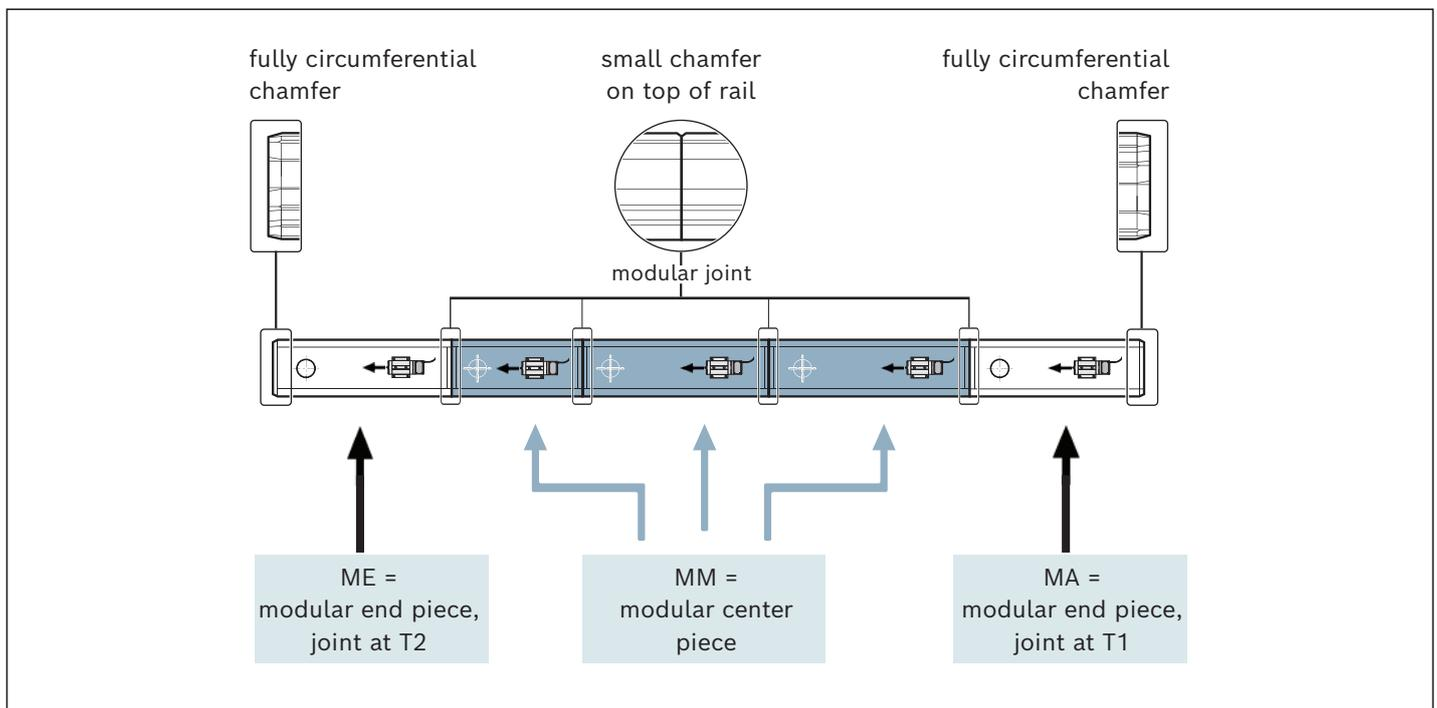

Fig. 6: Modular guide rail arrangement
- ▶ All sections (max. 8) within a track for IMS-A measuring systems must be configured via type keys IMS2A-KSA and IMS2A-RSA. This applies to rail sections with and without measuring function. All sections within such a track are marked with the symbol  Fig. 6 marking in the push-on direction of the runner block.